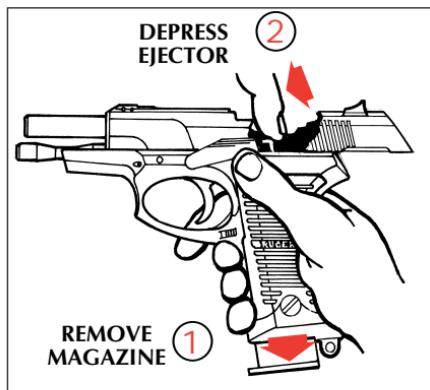

FIGURE 1
3. **Keep upward pressure on slide stop to prevent forward movement of slide.** Open slide is under strong spring tension and could injure fingers if allowed to slam shut. Insert finger through top of slide and push ejector downward and forward (see Figure 1, p. 16) until it locks in its lower position. This will permit forward movement of slide. Further disassembly is impossible unless this is done.